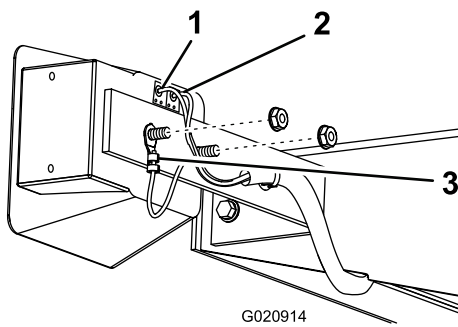

Figure 14
6. Repeat steps 2 through 5 for the light on the right-hand side of the machine (Figure 14).